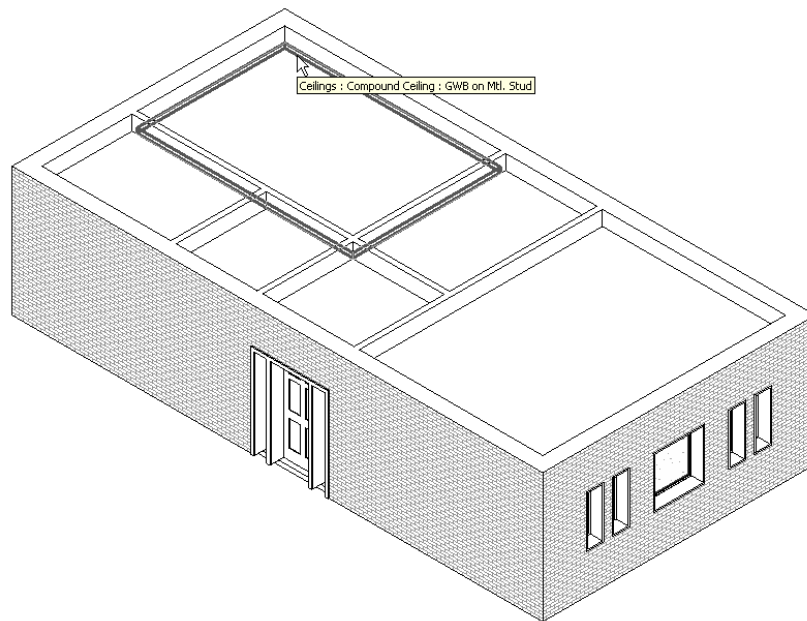

Figure 6-41 Highlighting and displaying the ceiling type for the bedroom
- d. Create the ceiling using the **Ceiling** tool, refer to Figures 6-41 and 6-42.
10. Click on the + symbol for the **3D Views** head in the **Project Browser** and double-click {3D}. The 3D view of the apartment project, with the created ceiling, is displayed. You can move the cursor over the ceiling of the bedroom to highlight it and display the ceiling type, as shown in Figure 6-41.